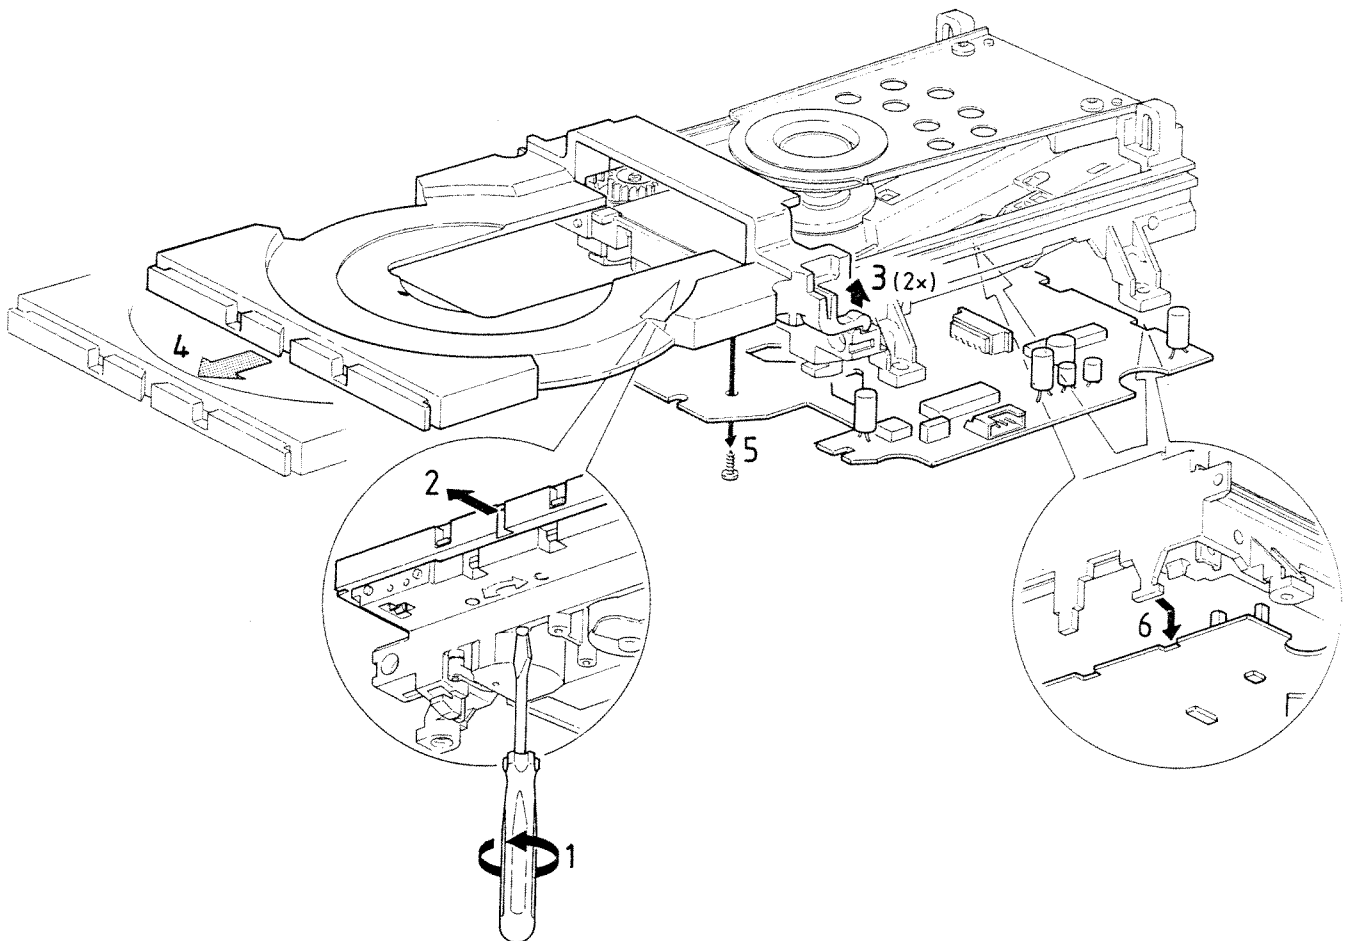

Fig. 1
- a) Press open/close button to open the tray. If the tray doesn't work, use a small screwdriver as shown in Fig. 1 point 1 to move the tray outside. After the first centimetre it is possible to pull the tray out by hand.